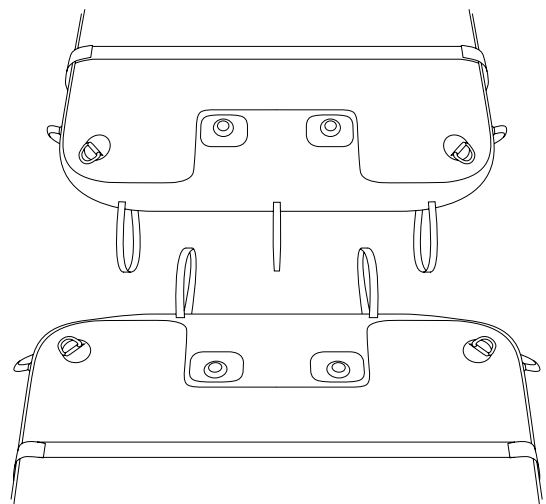
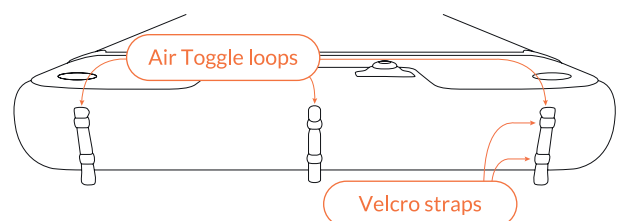

Fig 51 – Air Toggle loops, three from one platform and two from the other
Fig 52 – Air Toggle loops and Velcro straps
3. They must be aligned so that there are three Air Toggle loops from Platform and two Air Toggle loops from the other (Fig 51).
4. Ensure the Air Toggle loops are all unfastened by releasing the two Velcro straps (Fig 52) and that they sit in between each other (Fig 51).